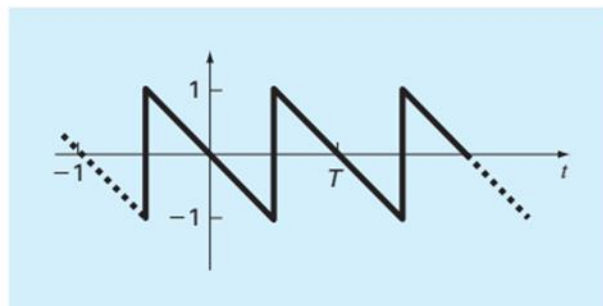

FIGURE P16.5
16.5 Use a continuous Fourier series to approximate the sawtooth wave in Fig. P16.5. Plot the first four terms along with the summation. In addition, construct amplitude and phase line spectra for the first four terms.